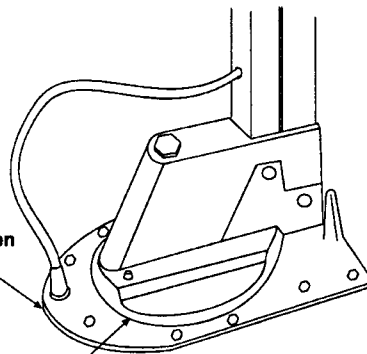

FIGURE 4
**STEP 7:** Mount antenna and lift on roof in travel position. Apply a liberal amount of approved nonhardening sealing compound on bottom of base plate and roof area around hole. See Figure 4. Secure base plate with screws provided. Apply sealing compound over mounting screws. See Figure 4.